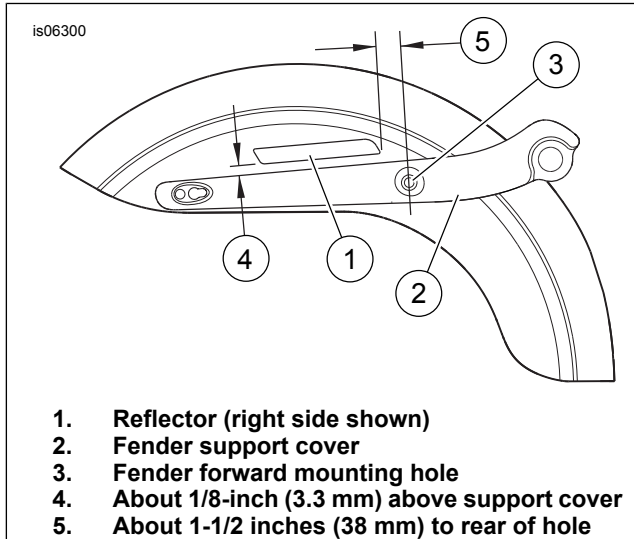

Figure 3. Side Reflector Placement
4. Clean the reflector mounting area of the fender (see Figure 3) with a mixture of 50-70% isopropyl alcohol and 30-50% distilled water. Allow to dry thoroughly.
5. Remove the liner from the adhesive back of one reflector (1). Carefully position the reflector to the fender, and press firmly into place. Hold the reflector in position with steady pressure for about one minute.